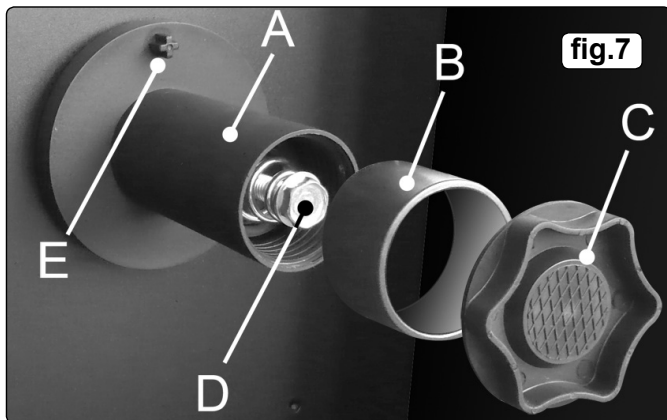

fig.7
- 4.11.3 Tighten the clutch nut located in the centre of the wire spool holder with a spanner (fig.7-D) and test the machine as above until the wire stops over running.